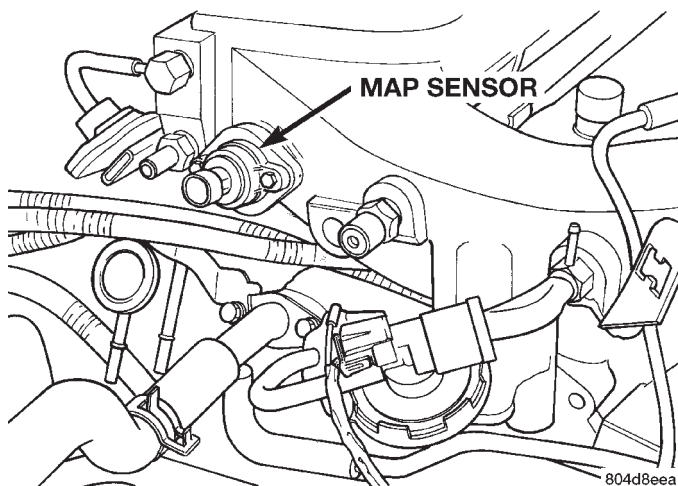
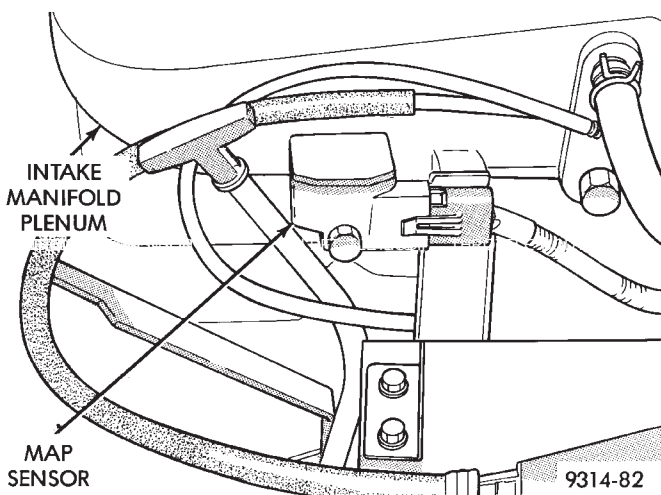

Fig. 35 MAP Sensor—3.3L Engine
Fig. 36 MAP Sensor—3.5L Engine
(2) Check the battery terminal connections for loose cables and corrosion.
(3) Check the MAP sensor electrical connection (Fig. 35) or (Fig. 36).